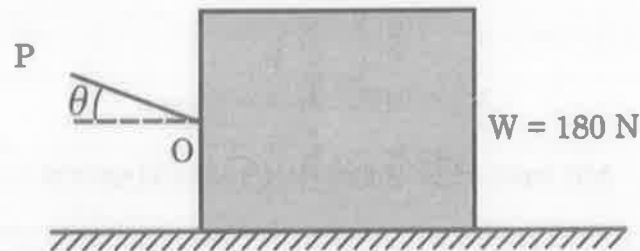

Fig 2
7. A 180 N block is placed on a rough horizontal surface as shown in Fig 2. Knowing that block just slides for $P = 60\text{ N}$ and $\theta = 20^\circ$, determine Coefficient of friction (μ).